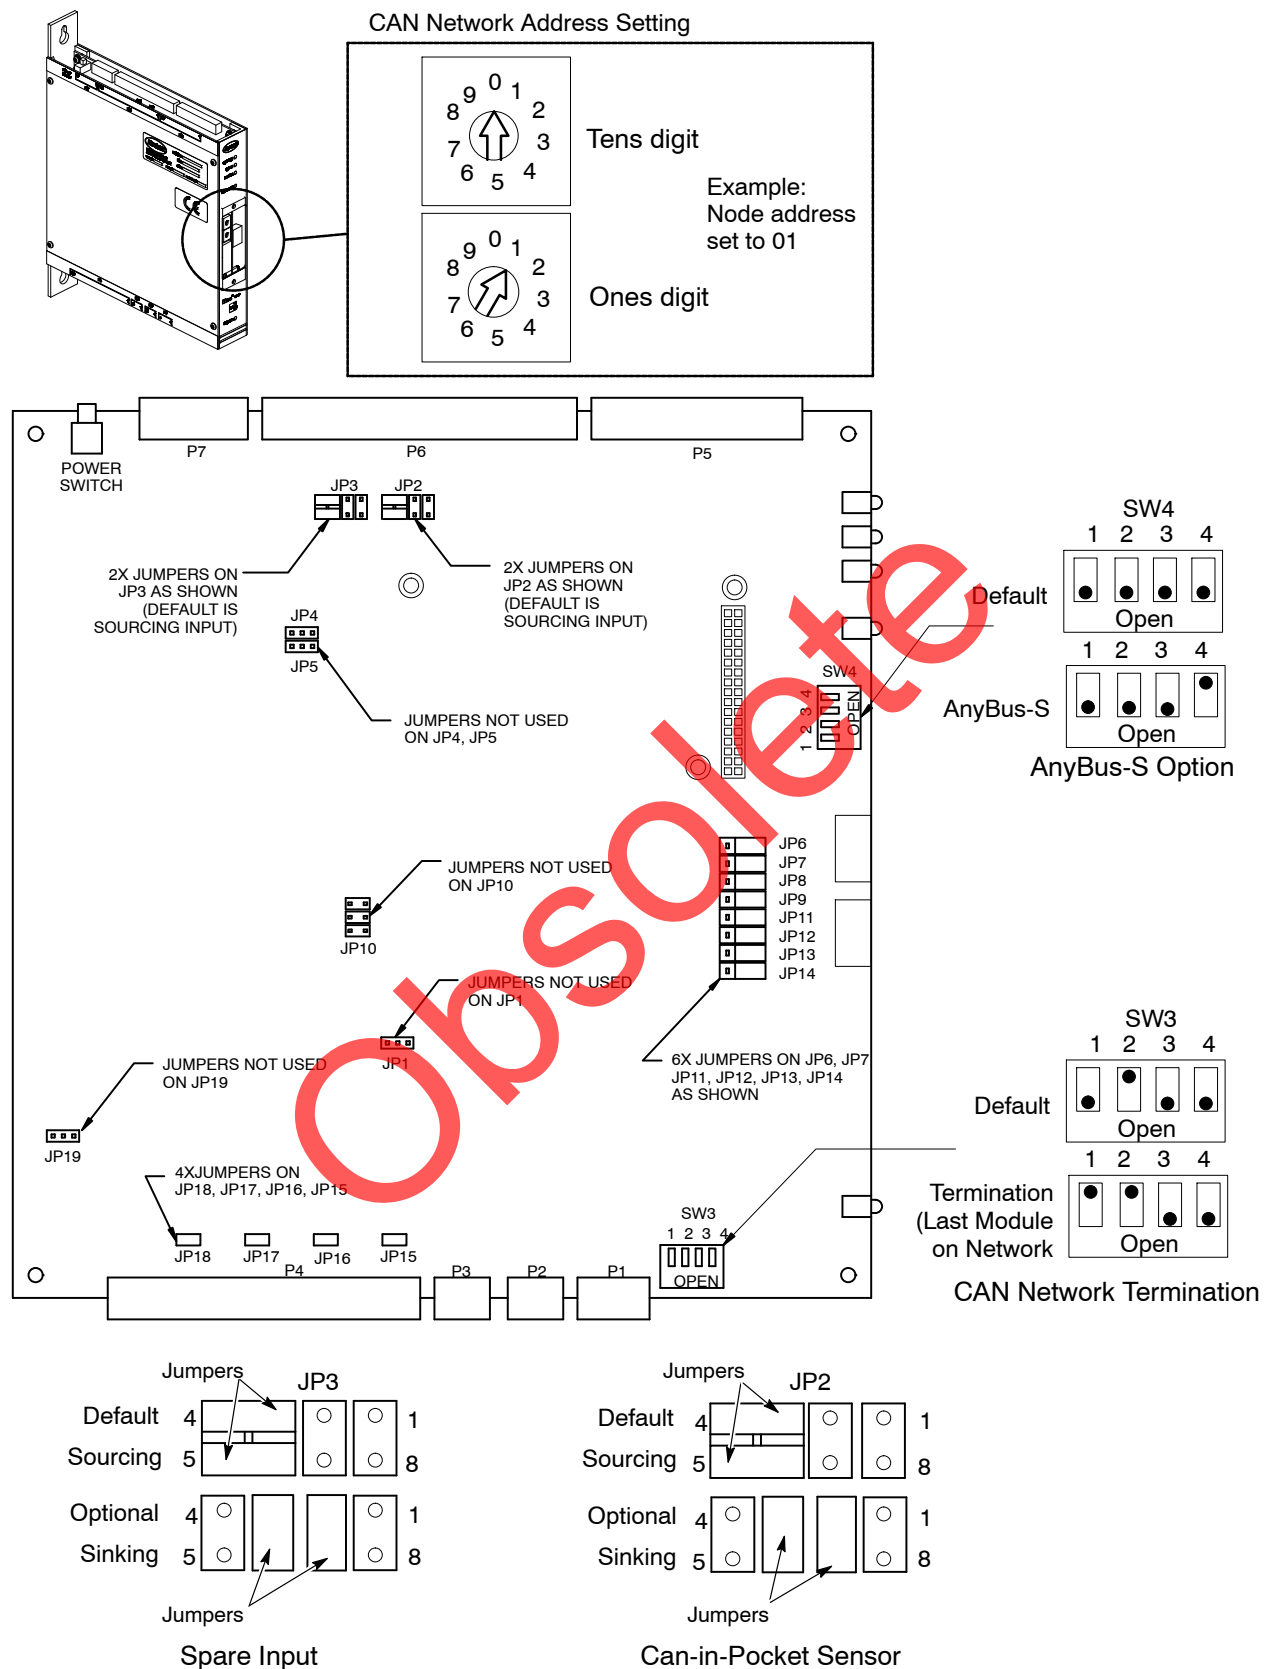

Figure 4 PRx Circuit Board Switches and Jumper Settings
1. See Figure 4. Using a screwdriver, remove the access plate on the front of the PRx module.
3. **Last Module in the iTRAX CAN Network Only:** The last module on the CAN network must be terminated. If the module is a PRx module close switch SW3 position 1 to terminate the network (see Figure 4). This switch is accessible from the bottom of the PRx module.